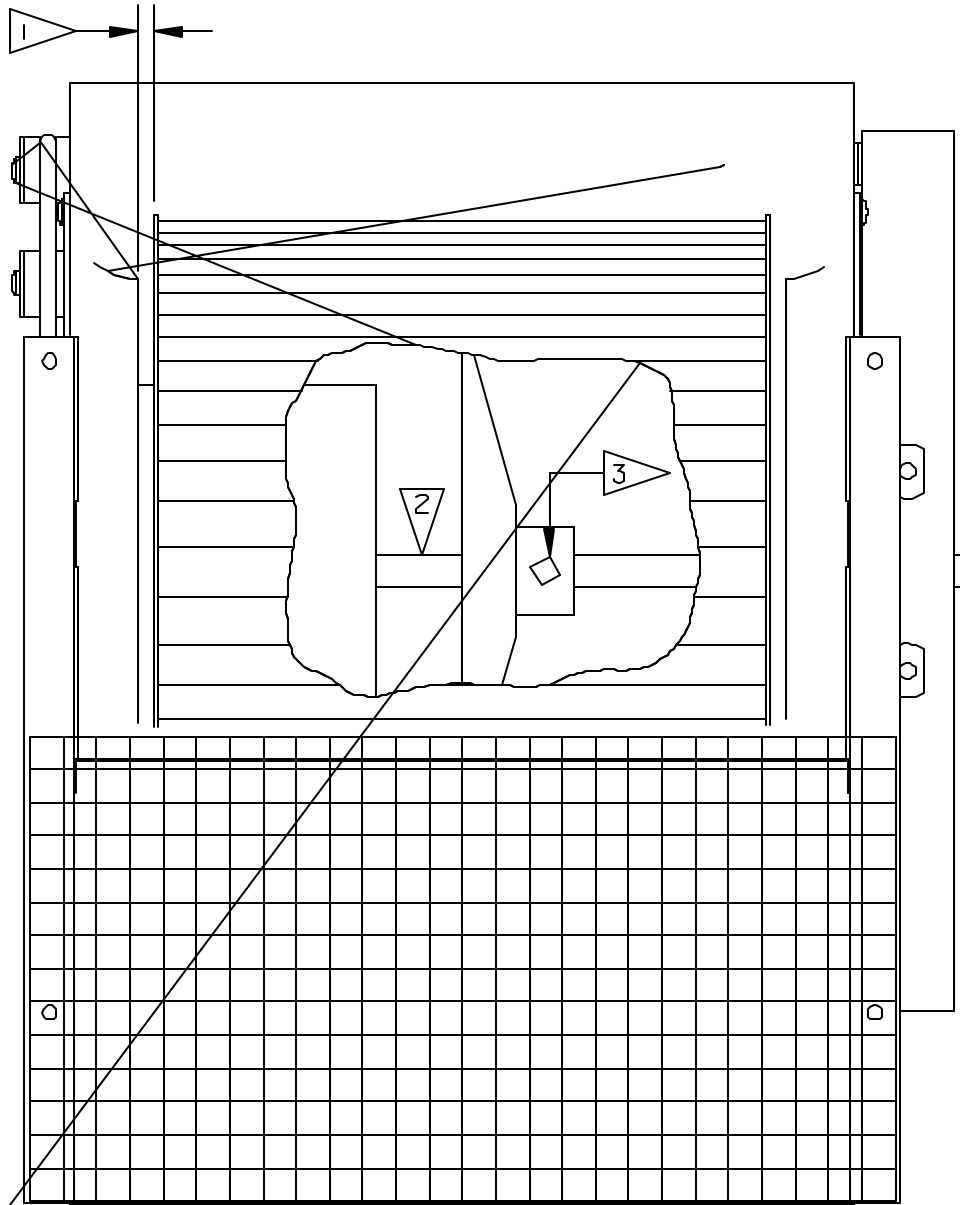

FIGURE 9
1. Remove 4 screws that attach scroll housing to basepan (See #1, Figure 9).
- Note: Upon reassembly, the references made on Figures 9 and 10 shall be used for proper reassembly.